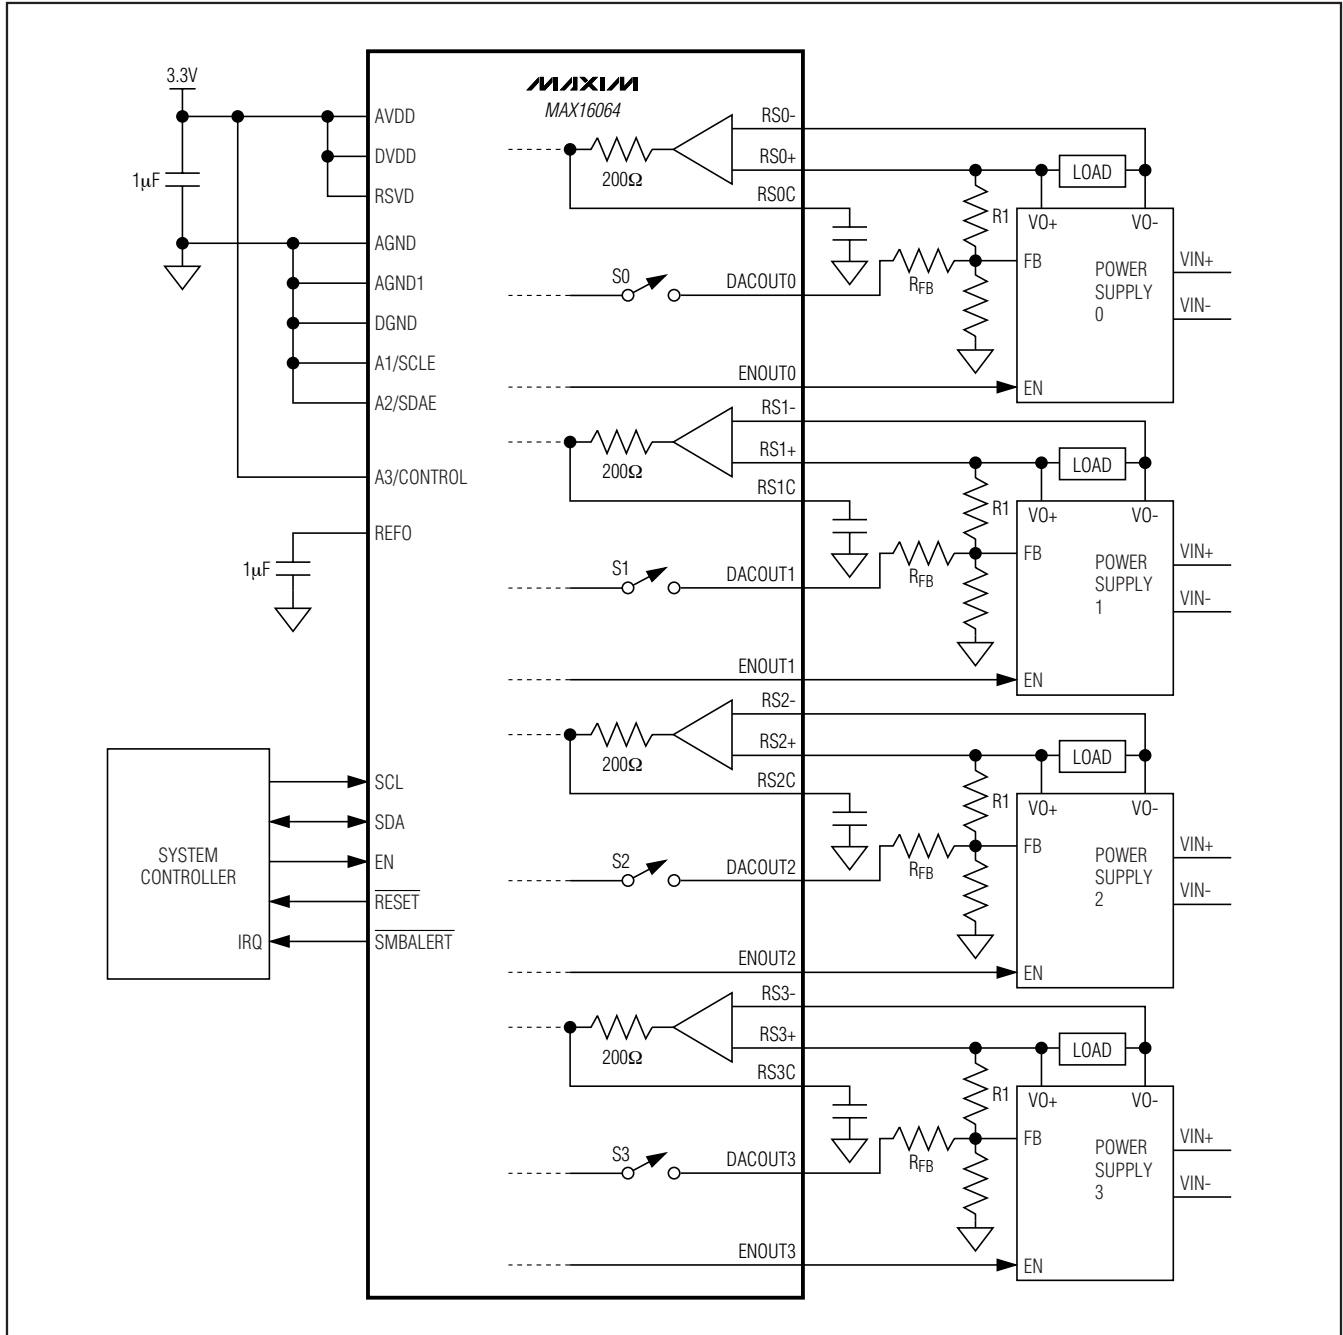

Figure 5. Typical System Application—Feedback Mode
Some power-supply converters do not provide a reference input. In these applications, the feedback node can be used instead. Connect a DACOUT_ output of the MAX16064 to the feedback node (FB) through a resistor RFB as shown in Figure 5. In steady-state operation, the MAX16064 controls the power-supply voltage as measured between RS_+ and RS_- to 0.3% accuracy by adjusting DACOUT_ 1 LSB at a time (0.5mV), up and down as required. This mode of operation is termed FB mode. Since the MAX16064 does not have control over the power-supply error-amplifier reference voltage, this mode relies on the power-supply soft-start setting to implement the required soft-start time.